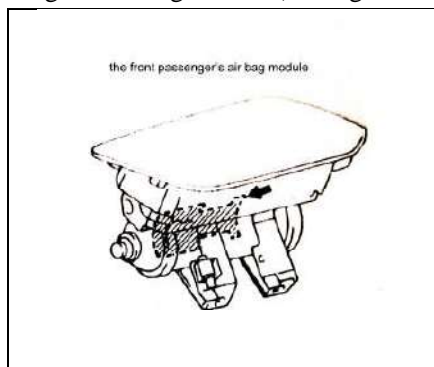

Fig 19-18
(4) Front passenger's air bag module(See fig 19-18)